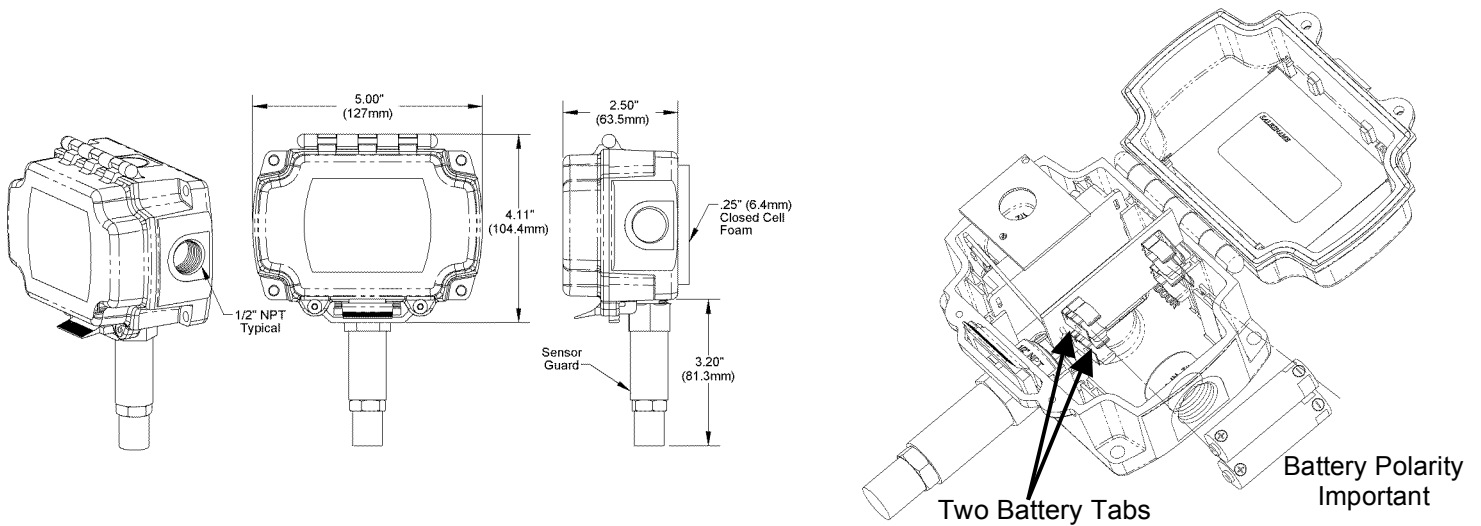
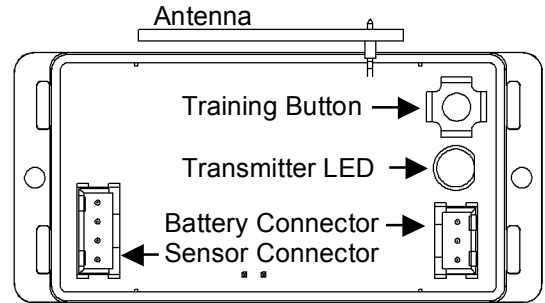

Figure 1: Wireless Outdoor Temperature & Humidity Transmitter
Figure 4: Transmitter Module
3. Open the cover of the transmitter and remove the battery tabs or install the batteries, observe polarity (see Fig 1). The transmitter LED, next to the Transmitter Training Button in Figure 4, should flash approximately once every 10 seconds. (The flash is very quick.)